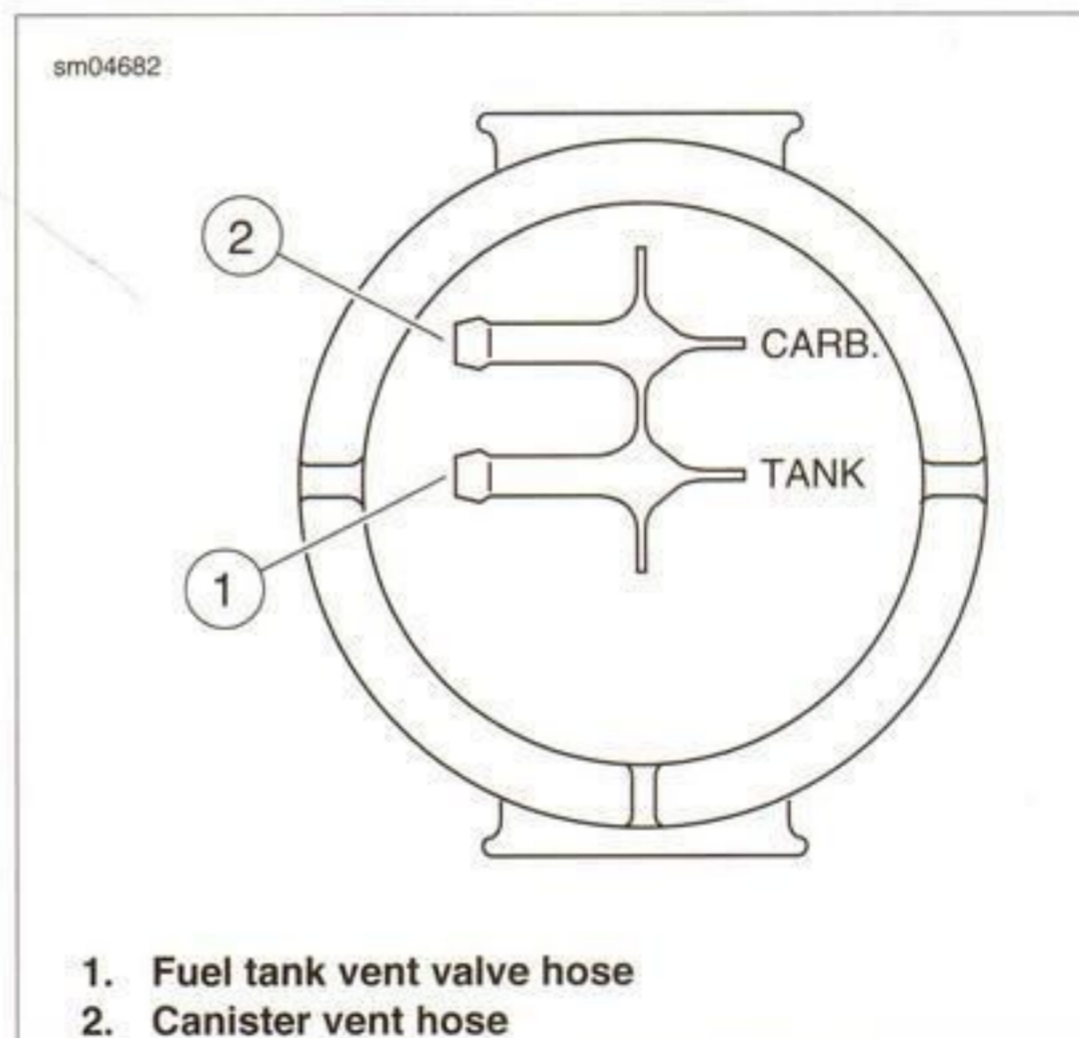

Figure 4-75. Carbon Canister Hose Connections
2. See Figure 4-75. Push the fuel tank vent hose over the barb of the fuel tank vent valve hose connector (1).
3. Push the canister vent hose over the barb of the canister vent hose connection (2).